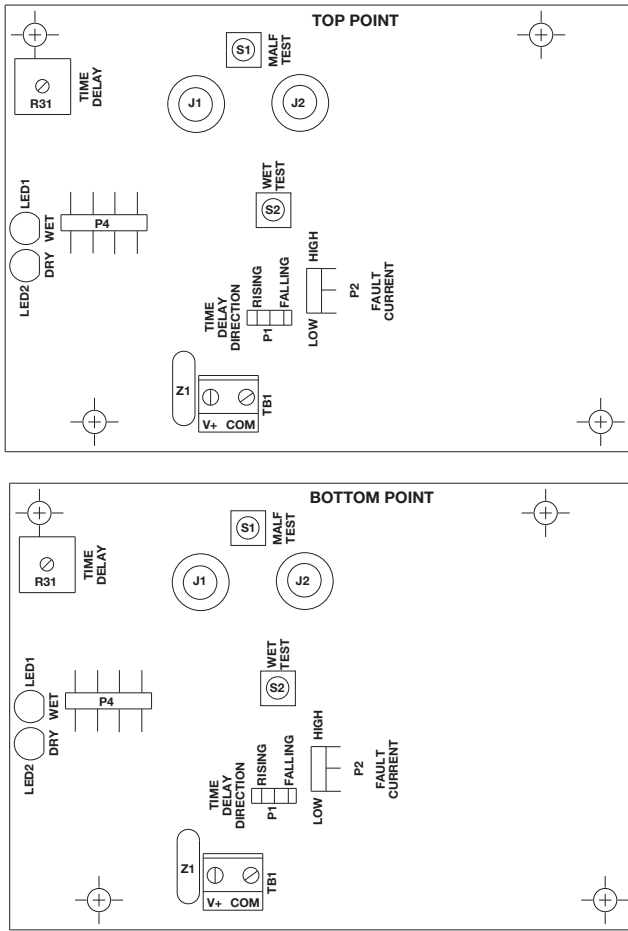

Figure 12
**REFER TO FIGURE 12 ON PAGE 10 FOR THE FOLLOWING CHARTS.**